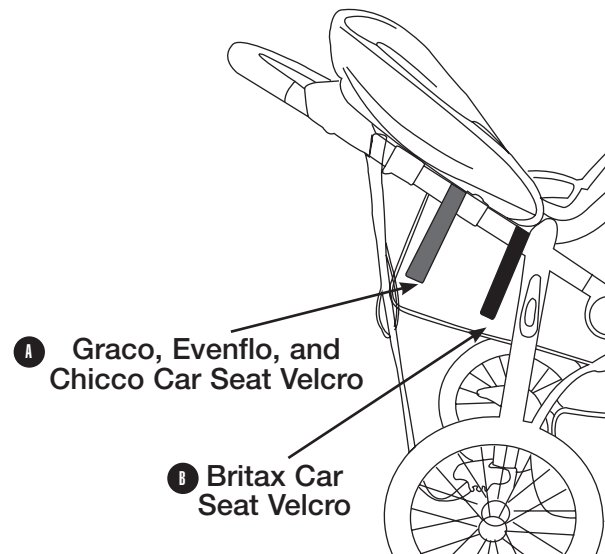

Fig. 13E
- Final step is to secure the car seat to the stroller using the straps with velcro. (Fig. 13E)